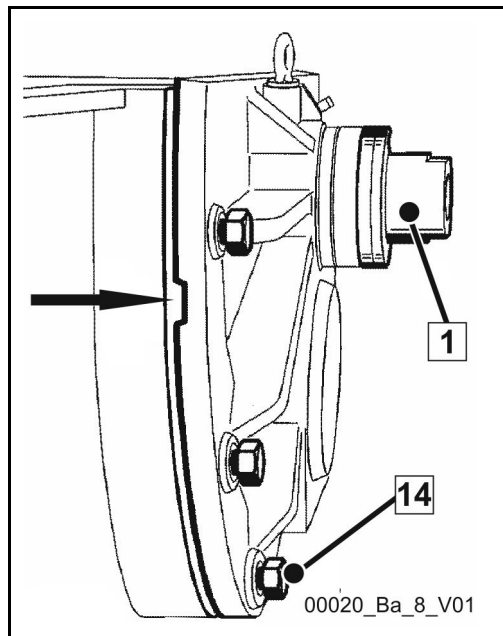

Fig. 336
- Loosen the adjusting nut (1) (**Fig. 336**) by two to three turns.
- Loosen the cover screws (14) evenly by approx. two to three turns to release the pressure spring in the cutting ring.
- Press off the cover of the housing using two assembly levers until it hits the loosened screws; there are press-off points (arrow) (**Fig. 336**) located on the top cover for this purpose.